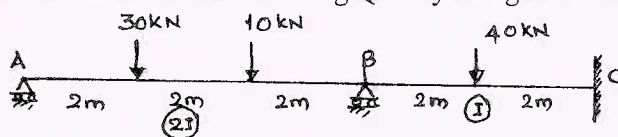

Fig.Q10
- 10 Analyse the continuous beam shown in Fig.Q10 by using stiffness matrix method.